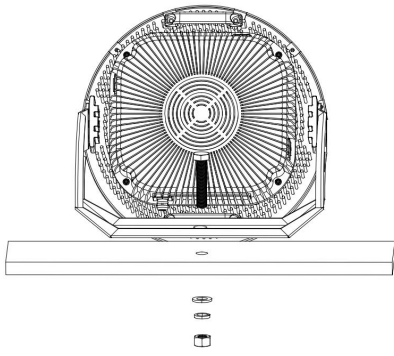
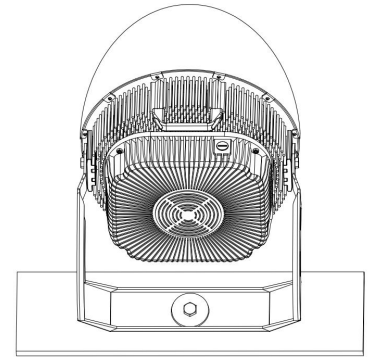

FIG.16
FIG.18
- 2) Put bolts into the round plate, through the drilled holes. Put flat washer and spring washer on the bottom of the bolt, lock with nuts.(See FIG.16 to FIG.18). Please use M20 bolts 60~120 mm long (not provided).